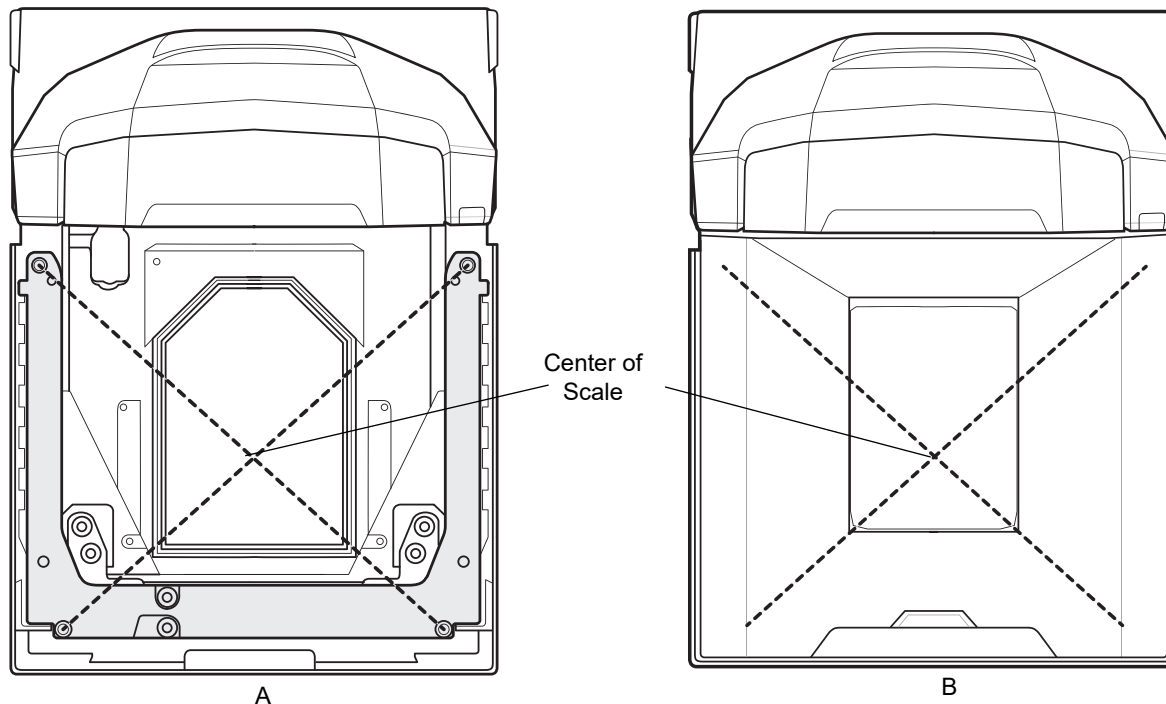

Figure 4-2 (A) Center of Scale Location, and (B) Center of Scale Location with Platter Installed
1. Depending on the units of measure programmed, place 25 lb or 11 kg on the scale. Ideally these weights should be grouped in the center of the scale (*Figure 4-2*).